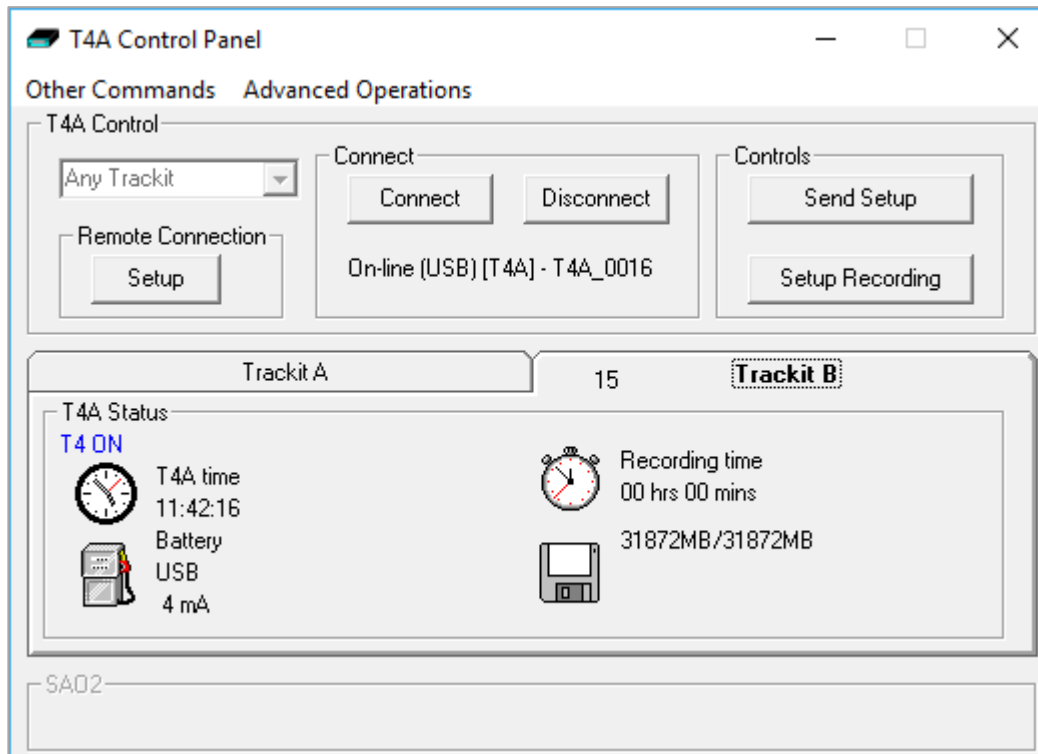

Figure 18: Trackit t4A "Status B"
Further status information is available on the 2nd tab (“Trackit B”). This includes the Trackit t4A time, Battery capacity, Recording time and SD card total and remaining capacity in (Megabytes (MB)) (see Figure 18).